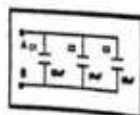

Fig. 17 Parallel capacitance
2. Find the total capacitance C_T of the parallel combination of capacitors shown in Figure 17.